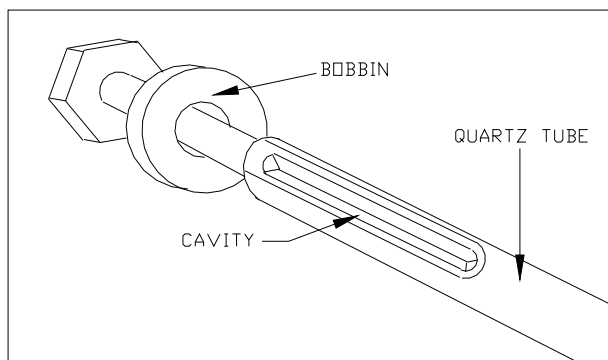

Figure 11-6. Cavity for Thermocouple
10. In preparation for installing the new thermocouple, look into the end of the Heater Block. You will see that there is an indentation (cavity) in the wide part of the quartz tube. This is where the thermocouple you are installing will reside. Refer to Figure 11-6.